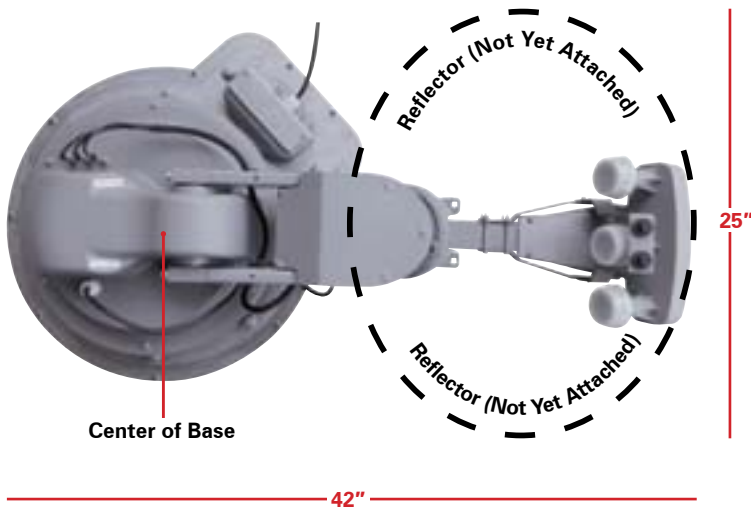

FIGURE 4. Required roof space for antenna
- c. Has a minimum roof space of 42" x 25" for the antenna (see fig. 4)